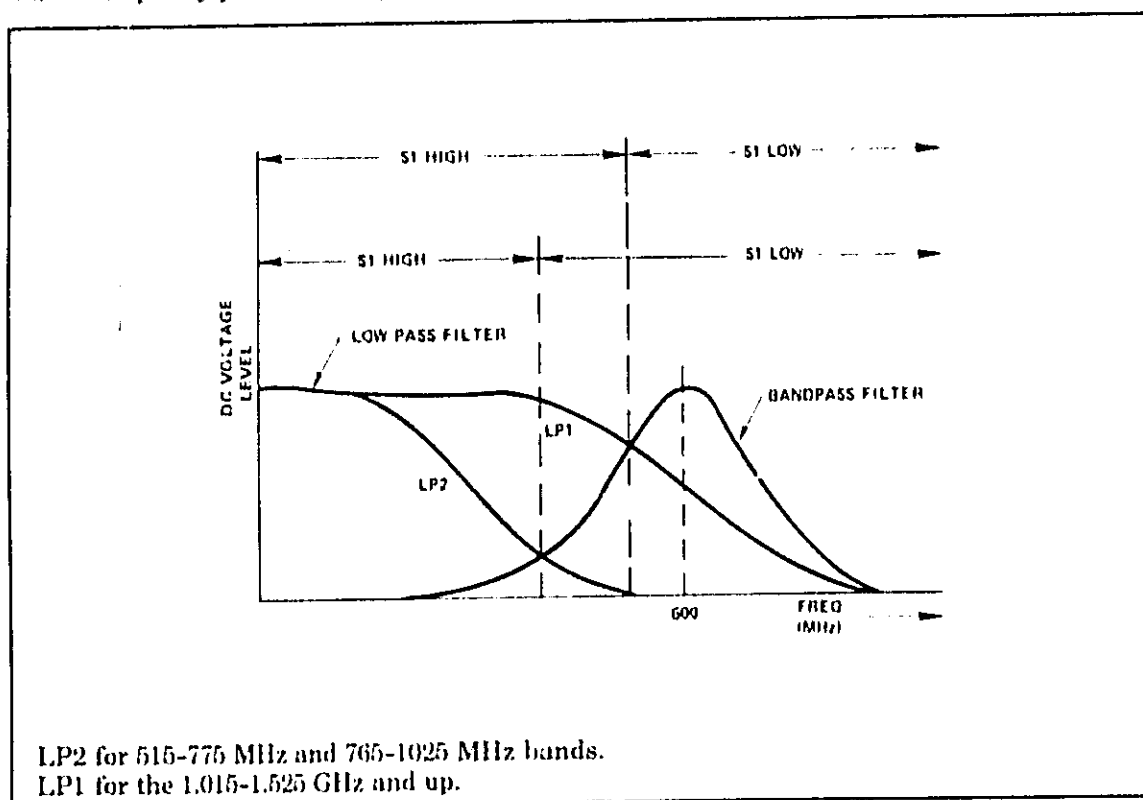

Figure 4-1. Frequency Discriminator Voltage versus Frequency
4-35. Qualifier S1, U4(7), indicates the signal out of mixer assembly A1 is at the correct frequency. Comparator U4 is connected to two arms of a frequency discriminator circuit. U4(2) receives a signal from band pass filter (600 MHz) C7, L7. CR3 is a hot-carrier peak-detector diode which detects any signal out of the filter. C13 is a holding capacitor for CR3. U4(3) receives a signal from the other arm which consists of low pass filter C8, L5, C11, L6, C14, and peak detector diode CR6. C16 is a holding capacitor for CR6. Figure 4-1 shows a dc voltage level versus frequency plot of the frequency discriminator.